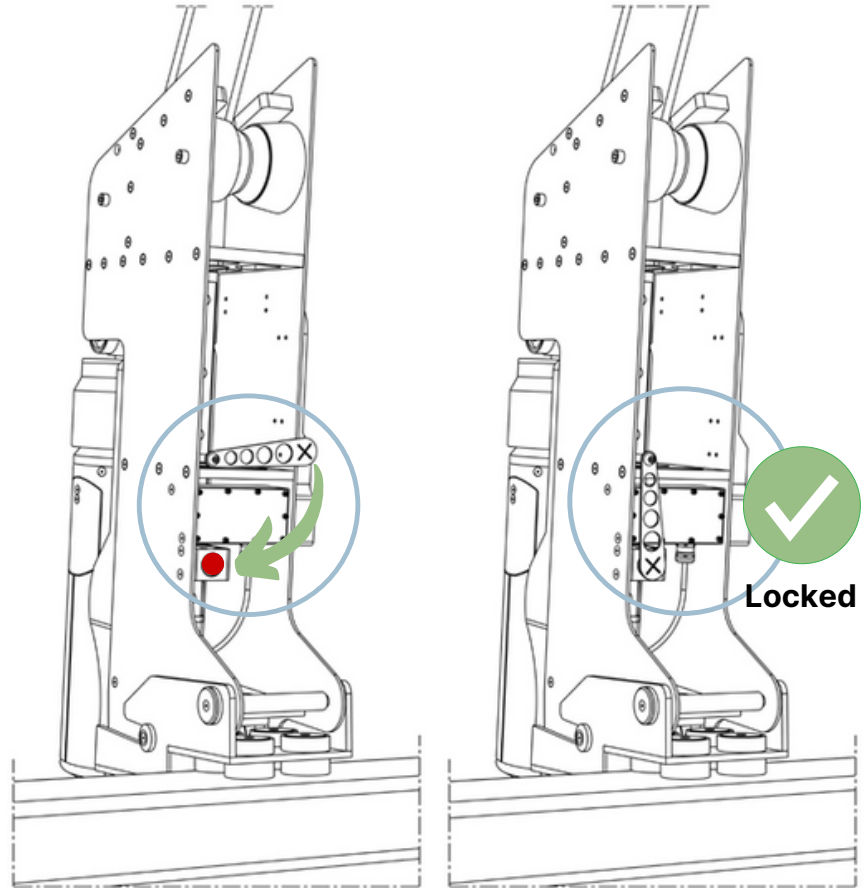

Figure 2.12. Lock the locking bolt.
- 1 Secure the traveller (and capsule) in the HOME position by pushing the locking bolt into the locked position (Figure 2.12).